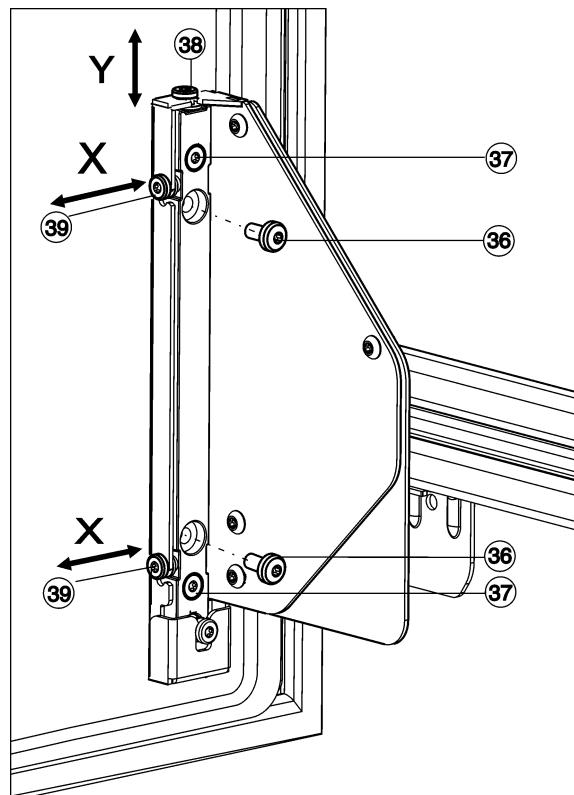

Fig. 31
- Fully screw out the screws Fig. 31 (36).
- Dispose of the screws Fig. 31 (36) as they will no longer be needed.
- Only loosen the screws Fig. 31 (37) with 1 to 2 turns.
- Turn the adjusting screw (38). In a clockwise direction: the door moves max. 4 mm upwards. In an anti-clockwise direction: the door moves max. 2 mm downwards.
- Retighten all screws Fig. 31 (37).
- If the screws Fig. 31 (36) are still present, unscrew them fully.
- Adjust the adjusting screws Fig. 31 (39) according to the desired lateral adjustment direction.
- Retighten the screws *Fig. 31 (37)* after the lateral adjustment is complete.